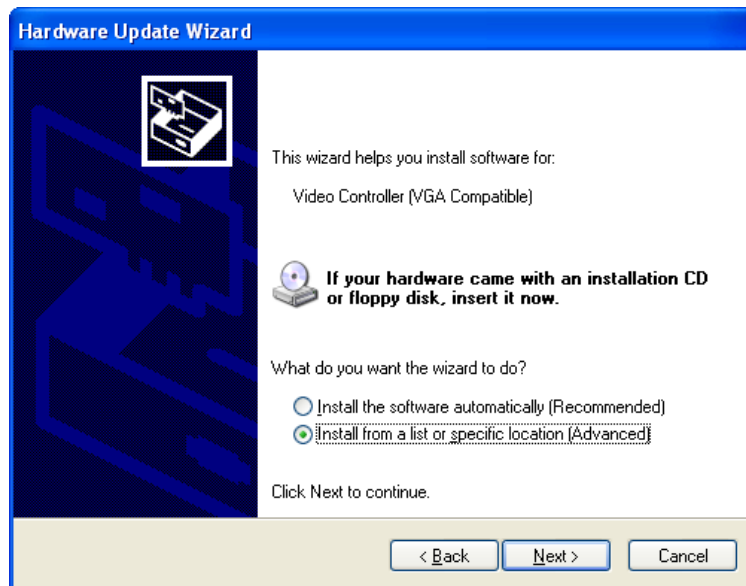

Figure 7-9: Install Options Window
Step 10: The following window (Figure 7-9) appears.